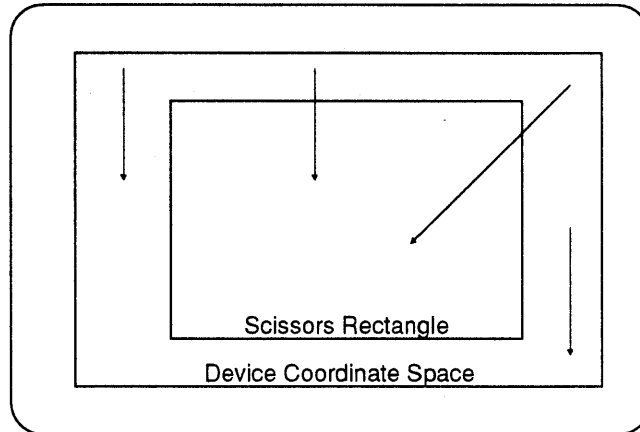

Figure 9-6. Patterned lines.
1. Patterned Lines – are lines entirely inside the device coordinate space, as shown in figure 9-6, is drawn by the graphics engine. They are classified as trivially accepted lines.